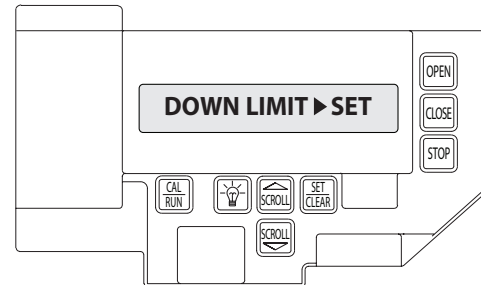

Figure 8
- 4) Press SET/CLEAR  key to switch display to "UP LIMIT>SET" or "DOWN LIMIT>SET." **Figure 8.**
- 2) Press SCROLL  until display reads "UP LIMIT>SET" or "DOWN LIMIT>SET." **Figure 8.**